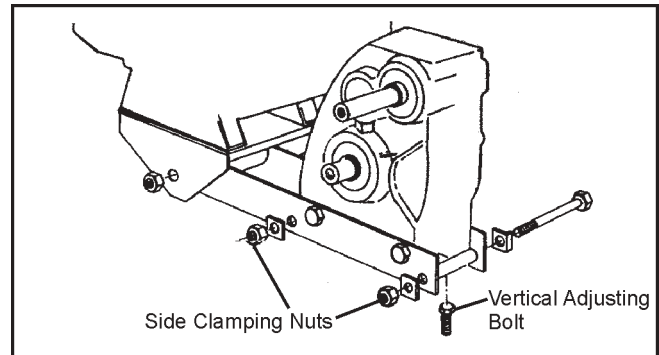

Figure 7-16. Location of power pack clamping nuts and adjusting bolts
2. Loosen the 2 left side clamping nuts with a 15/16" socket wrench (figure 7-16). Loosen the 3/8" hex nut (117-15) securing the adjustment support (602-27), just above the transmission, to the hood frame assembly. (Refer to Section 6.0 of the Parts Manual.) *Note: Avenger models do not have this adjustment support.*
Loosen the power pack clamping nuts and adjusting bolts as shown in Figure 7-16 and proceed as follows: